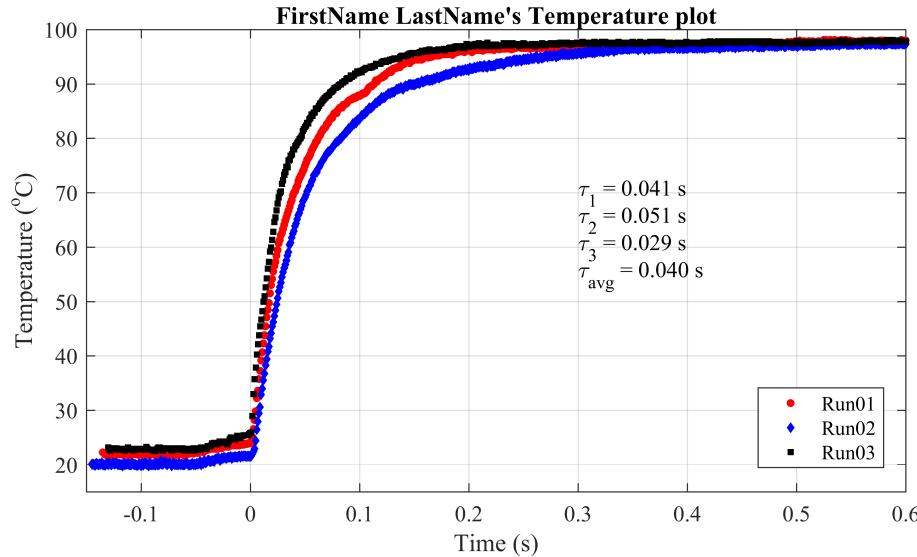

Figure 4: Step response plot of thermocouple for different test runs
- The plot should follow the exponential curve as seen in Fig.4.